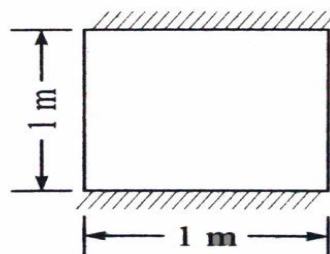

Fig.2
8. For the two dimensional body as shown figure 2, determine the temperature distribution. The left and right ends have constant temperatures of 200°C and 100°C respectively. Take $k=5 \text{ W/cm}^0\text{C}$. The body is insulated along the top and bottom.(15M)